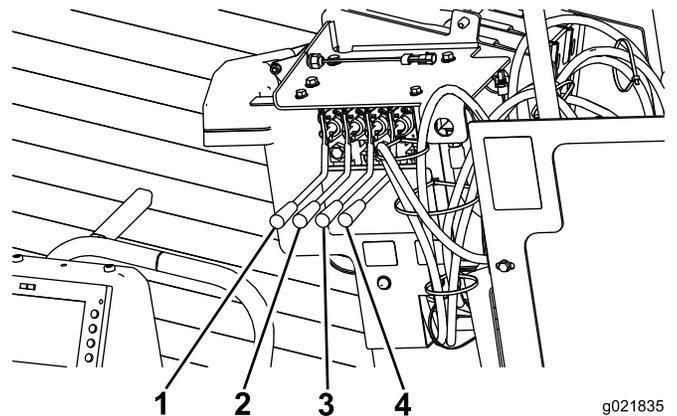

Figure 44
- Press the 2 right stake levers in to lower and spin the right stake auger until it seats fully (Figure 44).